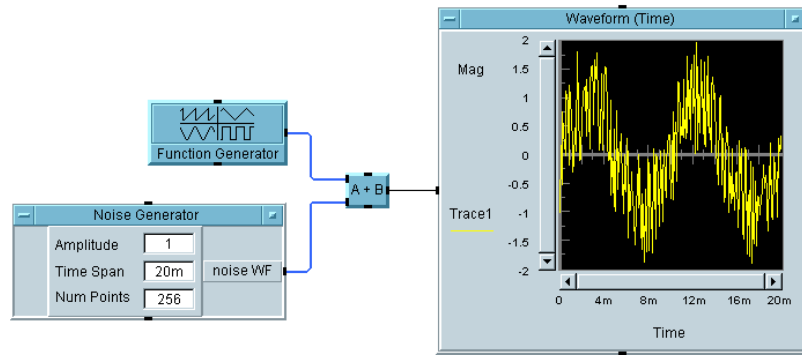

Figure 1-35. Example: Adding a Noise Generator Object
Add a “noisy sine wave” by adding a Noise Generator object to `simple-program.vee`, as shown in Figure 1-35.
5. Connect the input and output pins as shown in Figure 1-35.